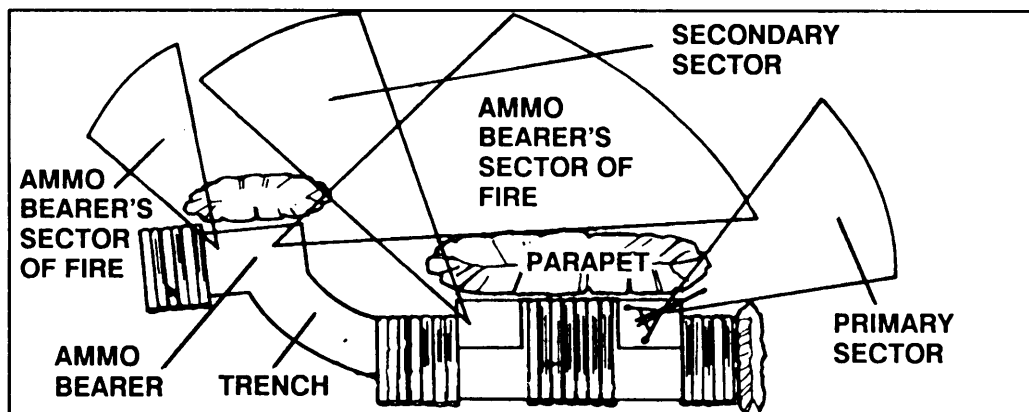

Figure D-6. Two firing platforms with overhead cover.
(3) When a position has both a primary and secondary sector, the crew prepares two firing platforms. The crew prepares overhead cover for a machine gun position like that of a two-man small arms fighting position. Time and material permitting, overhead cover should extend to cover the firing platforms (Figure D-6). Failure to properly construct overhead cover can result in reduced fields of fire, inability to mount NVDs, or problems in reloading. Proper construction of overhead cover is critical to survival.